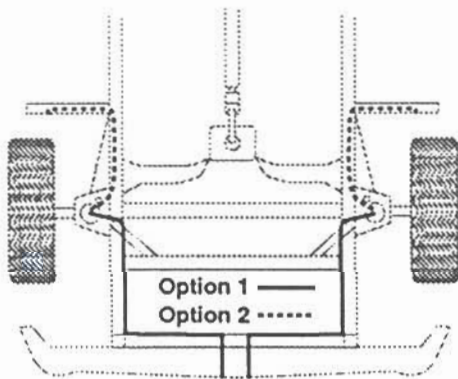

Figure 9
- A. Select a location for inflation valves in the rear floor plan or rear bumper, insuring that the valve will be protected and accessible with an air hose (fig.9).